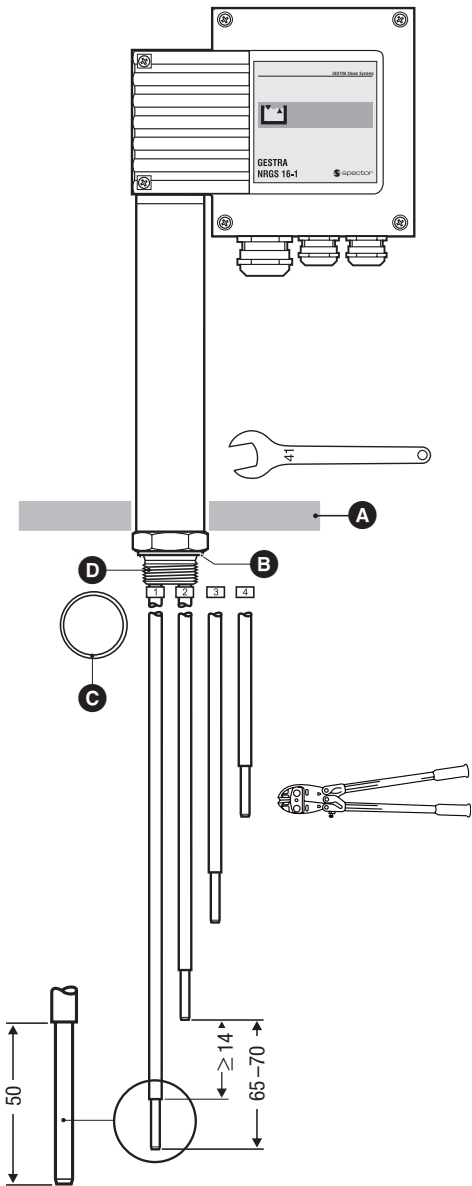

Fig. 3
1. Determine required measuring lengths of electrode tips and enter data in table "Functions". **Fig. 3**